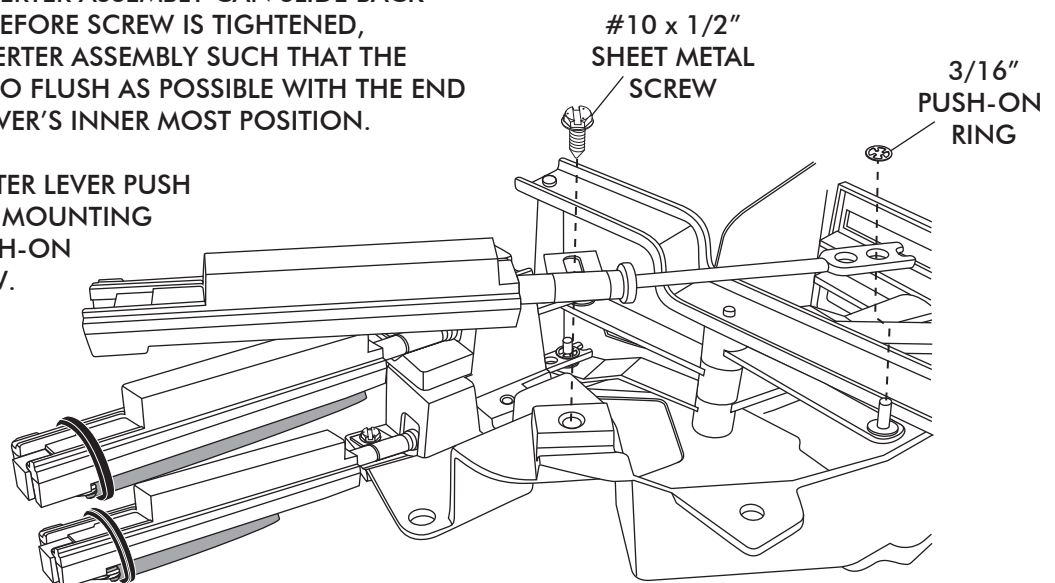

FIGURE 10
- INSTALL CABLE CONVERTER ASSEMBLY ON THE DASH/ FLR/ DEF LEVER. SEE FIGURE 10 BELOW.